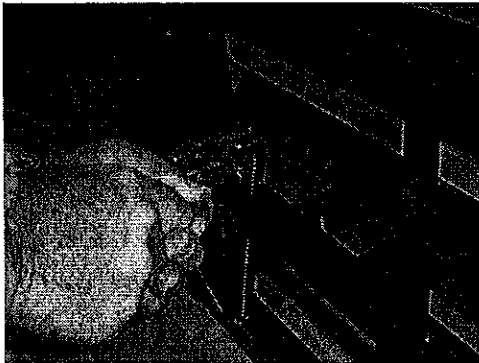

Figure 19. Spring loading technique with locking pliers to grip spring and using the yoke connector bar as leverage to stretch spring into position.
1. Attach one spring in the outermost hole on either side of the base angle frame assembly. Using locking pliers, grip the top of the spring and stretch spring upwards, using the yoke connector bar as a fulcrum point for leverage. Hook spring into the spring bar assembly (weldment) and tap lightly to seat spring in place. Refer to Figure 18 for detailed view of spring attachment. Refer to Figure 19 for photo showing spring loading technique with locking pliers to grip spring and the yoke connector bar used as